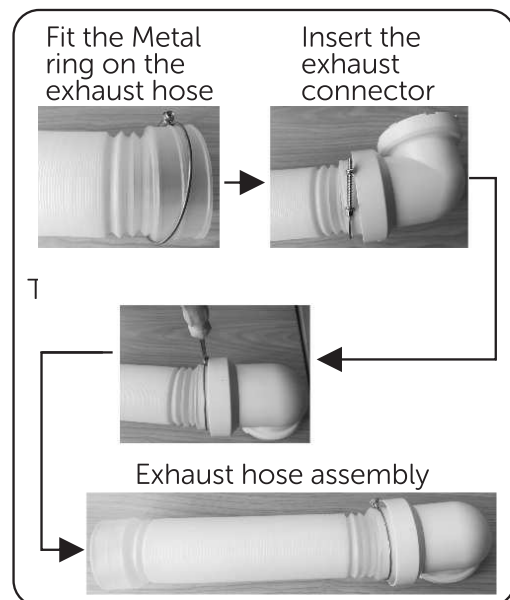

Fig5
1. According to the order of arrows shown in Fig 5, three parts are combined into exhaust hose assembly.